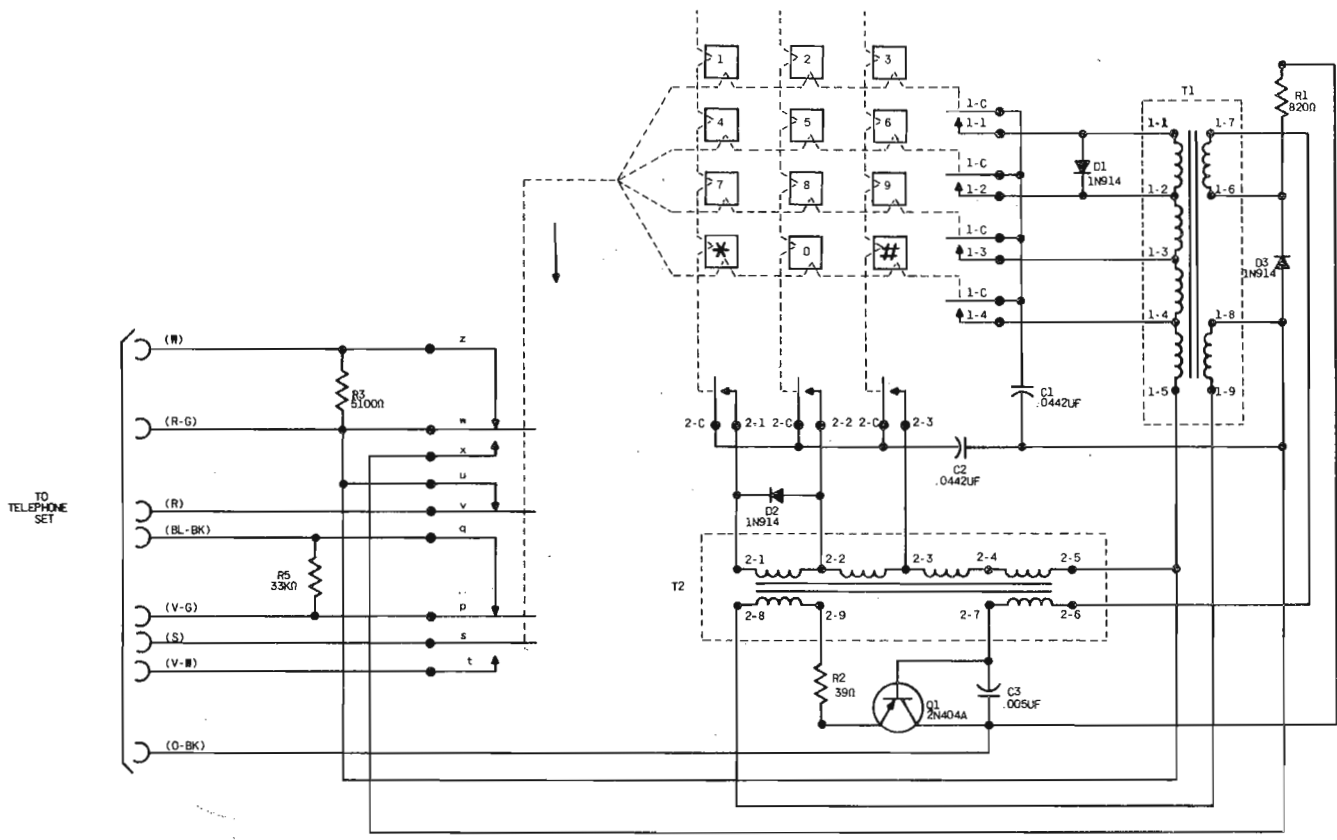

Fig. 6 — NE-35Q3C Dial Schematic (MD)
- Fig. 6 – NE-35Q3C Dial Schematic (MD)